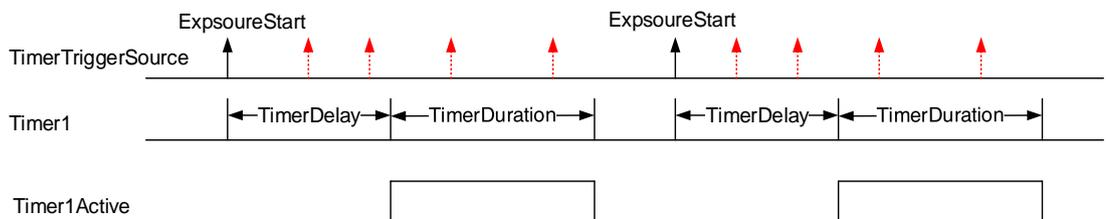

Figure 8-57 The relationship between Timer1Active and the ExposureStart signal
- 1) From the start of the timer to the full output of Timer1Active, this process will not be interrupted by the ExposureStart signal, and Timer1Active must be completely output to start timing according to the next ExposureStart signal. As shown in the Figure 8-57, the red ExposureStart signals are ignored.